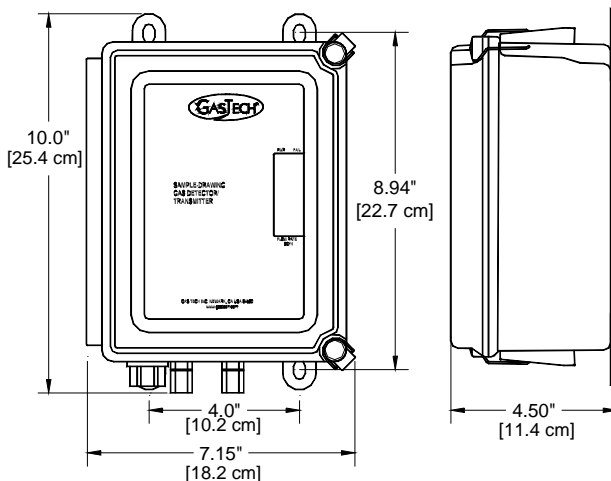

Figure 2-1 Outline and Mounting Dimensions
2. Secure the housing to the vertical surface using bolts or screws through the mounting flanges (see Figures 2-1).